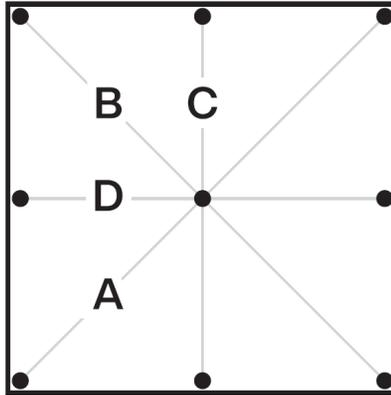

Figure 101
- All test measurements shall be taken from the same face of the test specimen (See Figure 101)